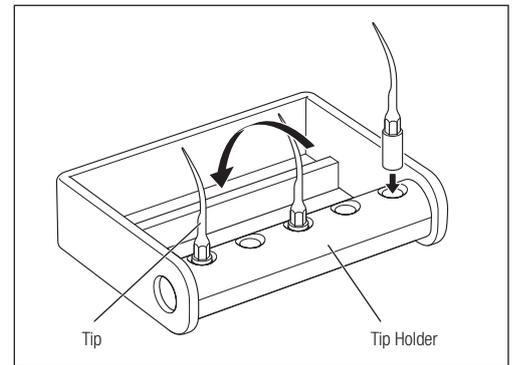

Fig. 61
- The Tip Holder is autoclavable. Up to 5 Tips can be sterilized at the same time. Rotate the Holder in the direction of the arrow so the Tips are set in the frame for sterilization (Fig. 61).